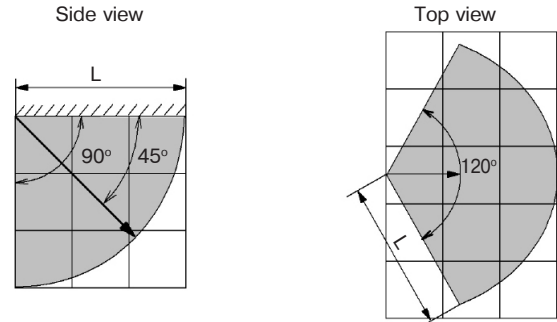

Figure 1 – Glass Break Detection Pattern
- When choosing the place of installation, the Detector detection zone location must be taken into account (Figure 1).